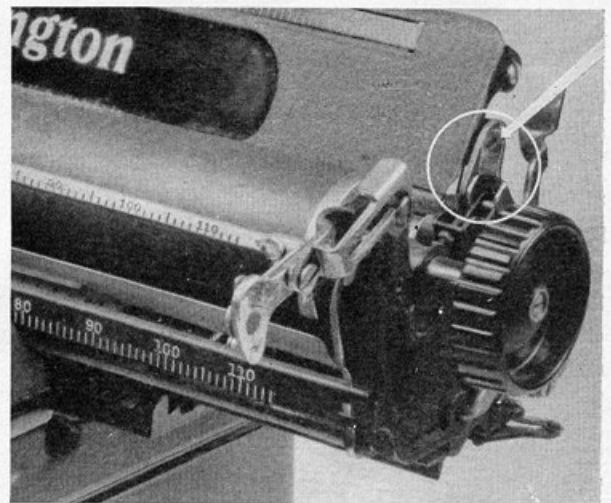

Figure 30.—Platen lock lever, unlocked, Remington Standard.
*Remington Standard.*—At the ends of the carriage, directly above the platen ends, are two locks. To remove platen: Disengage the platen-lock levers (see fig. 29, p. 15) by raising them up and backward (see fig. 30, p. 15). Lift platen out of carriage. To replace platen: With platen-lock levers all the way